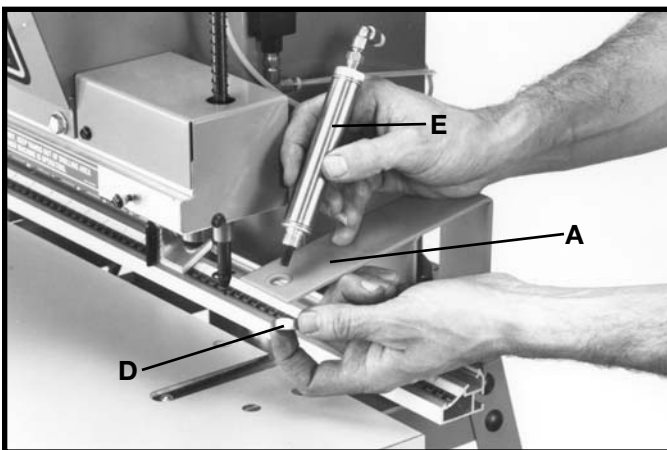
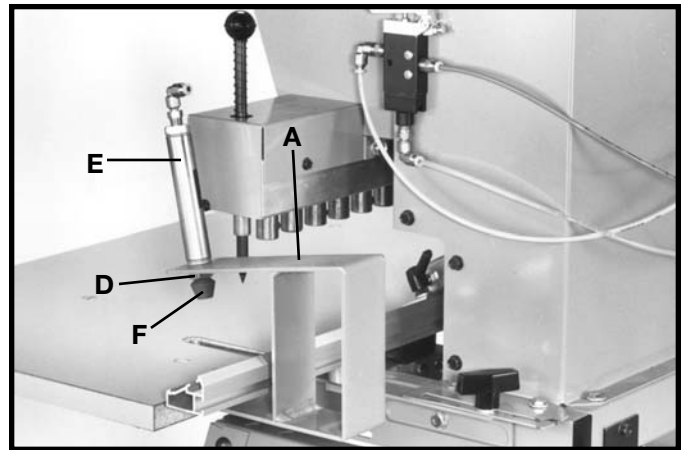

Fig. 31
Fig. 32
3. Remove jam nut (D) Fig. 31, from bottom end of air cylinder clamp (E) and assemble air cylinder clamp (E) Fig. 32, to clamp bracket (A) Fig. 31, using jam nut (D). Thread rubber foot (F) Fig. 32, onto bottom of air cylinder clamp (E) as shown. Assemble remaining air cylinder clamp to other clamp bracket in the same manner.